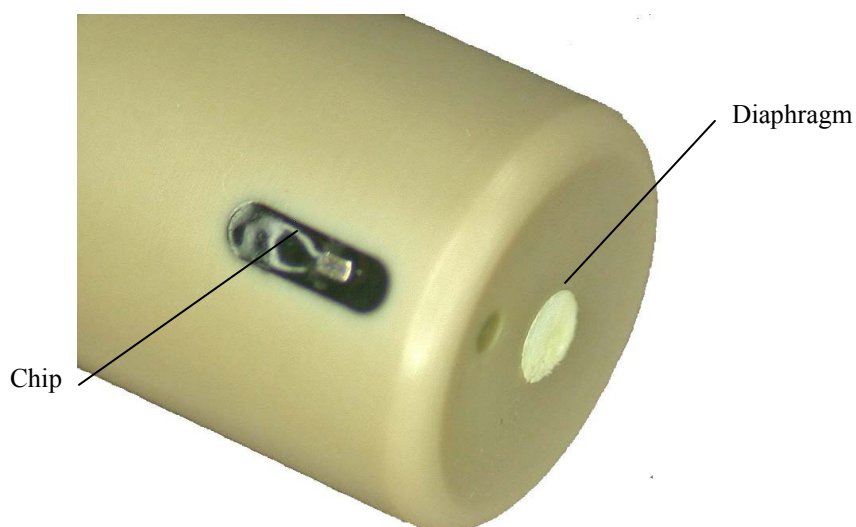

FIGURE 6-1. Tip of the CS525 Probe
1. Place the tip of the probe in soapy water that is 50° to 60°C and soak for about 5 minutes (see Figure 6-1).